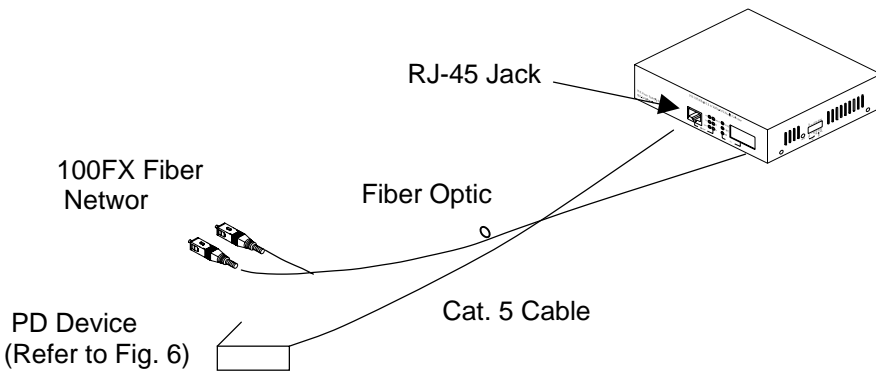

Fig. 2 Connection among PSE Ethernet Switch, Fiber and TP Cables
4.1 PSE TP-Fiber Converter with Powered Device (PD)
- ⇒ Install the TP media cable to the IEEE 802.3af PD converter (See Fig. 2)